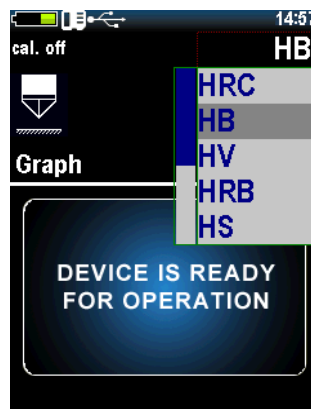

Figure 2.6 - Selecting the hardness scales
5. Choice the needed hardness scale, press <  > to assess the choice menu (fig. 2.6), than select the needed scale with <  > and <  > keys (the Rockwell C (HRC), Brinell (HB), Vickers (HV), Rockwell B (HRB), Shore (HS), Leeb (HL), the measurement of tensile strength (σ), Tensile products of carbon steel pearlite (MPA), a user (U1, U2, U3)).